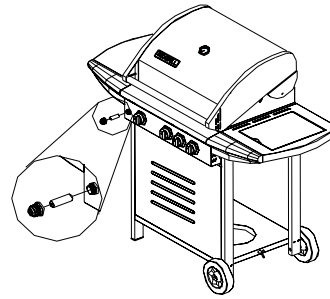

Figure 13
3. Replace the ignition battery cap after the battery has been installed. (Fig.13).